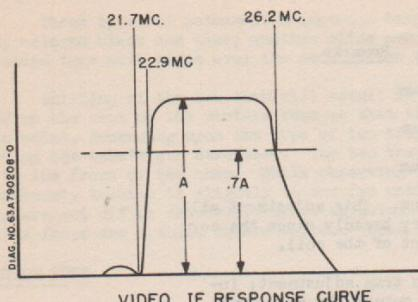

FIGURE 5. VIDEO I.F. RESPONSE WAVEFORM
The video IF amplifier response curve is shown in Figure 5. The bandwidth at the 3 db points should be approximately 3.5 mc. To check this with the AM generator, note the signal strength in microvolts necessary to produce an increase of 1 volt above contact potential at 24.5 mc. Increase this input by 1.4 times and shift the generator frequency both sides of frequencies and should be approximately 22.9 and 26.2 mc. These two new frequencies thus obtained are the 3 db skirt -5 volt contrast bias.
10. Compare the curve with the ideal curve in Figure 5, using the marker to locate specific frequencies on the wave. If it is necessary to alter the shape of the curve, readjust the core closest in frequency to the point requiring correction.